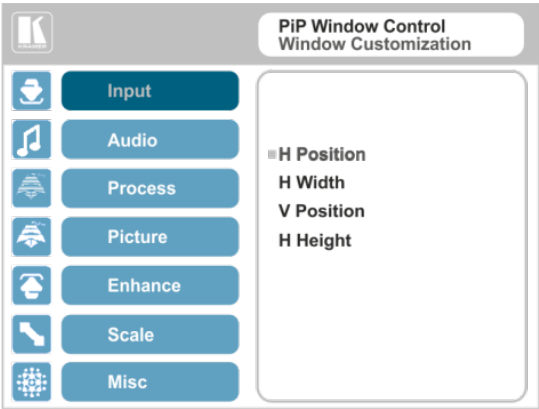

Figure 9: Window Customization
2. Select Window Customization (see Figure 9).